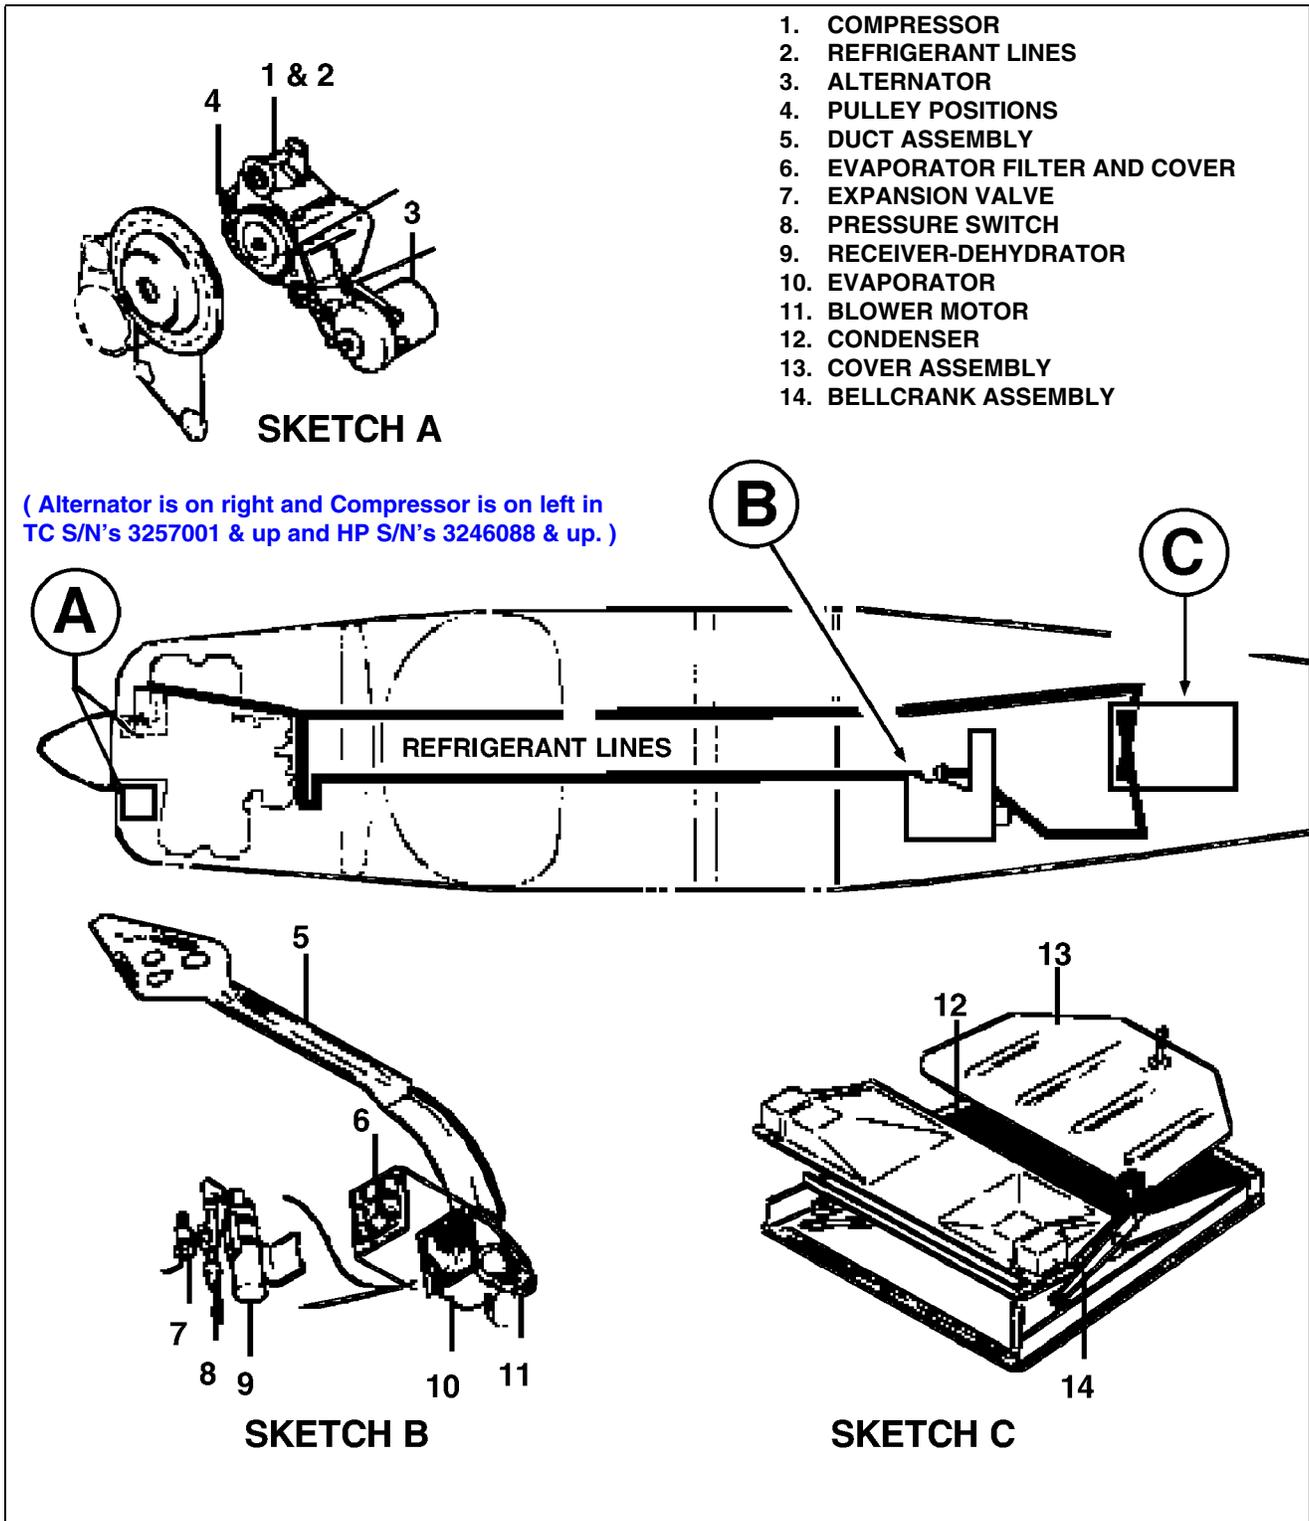

Figure 21-2. Air Conditioning System Installation (Typical)
- A. Description and Operation (Refer to Figure 21-2)